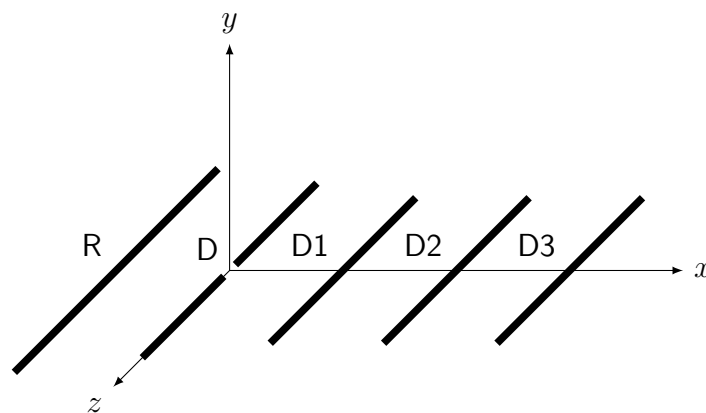

Figure 3: Yagi-Uda antenna
The Yagi-Uda is a type of linear antenna array designed to produce an end-fire beam, and is illustrated in Figure 3. Maximum gain is developed in the $+x$ direction. The distinguishing feature of a Yagi-Uda antenna is that only one antenna element, a half-wave dipole (labelled D in Figure 3), needs to be excited. The remaining elements, which are placed near the driven dipole, are *parasitically excited* by the dipole and these dipoles do not require connections to the RF source, and are essentially short-circuited at their centres. These parasitic elements are placed and sized in such a way that the correct amplitude and phase of the required currents are induced on them, producing the end-fire response that is the goal of the design. The elements are referred to as the reflector (R) and directors ($D1$, $D2$, $D3$) in the antenna. It is possible to have several reflectors and numerous directors comprising a Yagi-Uda antenna, but the design you will pursue will be smaller to keep the construction manageable. Elements are mounted along a physical boom that supports the elements, that is oriented along the x -axis.